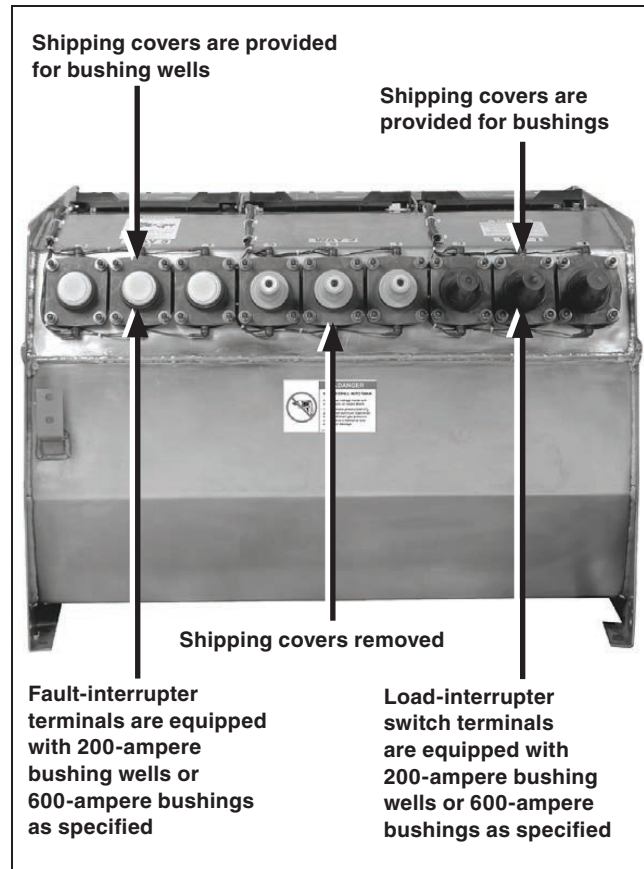

Figure 77. A Vista switchgear tank with shipping covers. (Manual unit shown for illustration purposes.)
STEP 1. Remove the shipping covers from the bushings and bushing wells. See Figure 77.